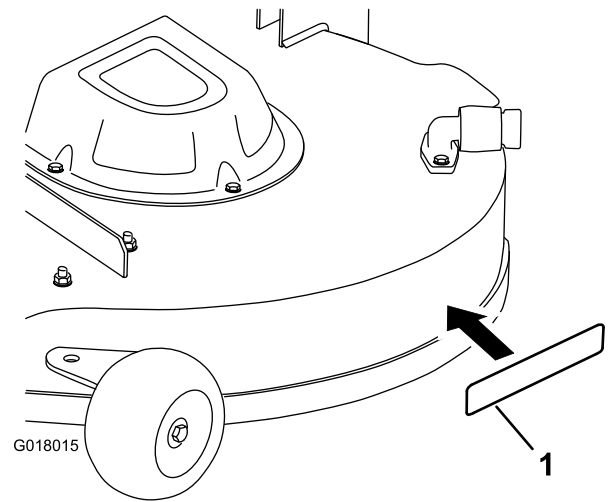

Figure 4
12. Install the decal to the area shown in Figure 4.
- C. Peel the decal from the backing and install it in place (Figure 4).